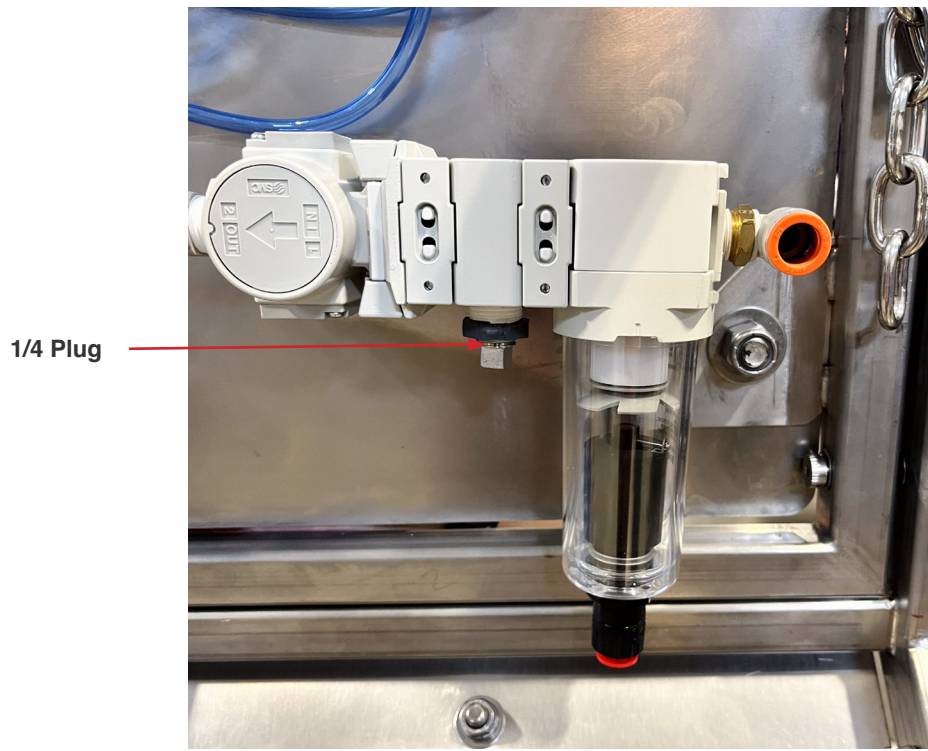

Fig. 3.2.5 - 1 - 1/4" plug on Main Air Regulator
3. Remove the 1/4" plug from the underside of the Main Air Regulator assembly (Fig. 3.2.5. - 1).
5. Install bulkhead fitting into the lower left hole on the bottom panel with threaded fitting pointing towards the front of the unit (Fig. 3.2.5 - 2, following page).